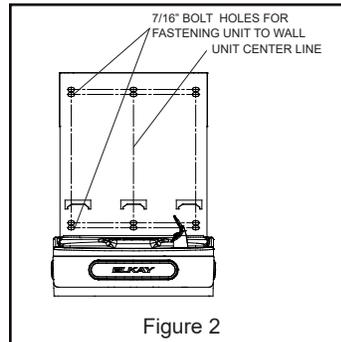

Figure 2
- Install wall mounting plate to wall using six (6) 7/16" oval mounting holes (mounting bolts not included) (See Fig 2). Use appropriate fasteners for your wall type.